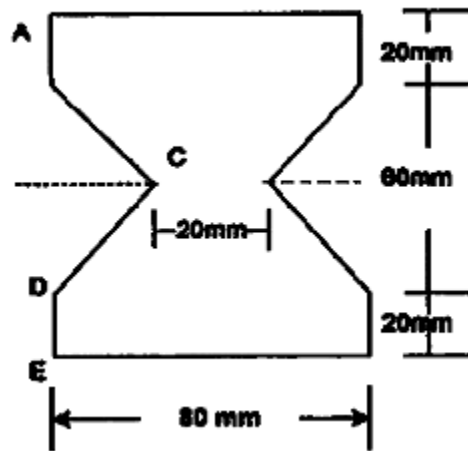

Fig. 7
6. (a) A steel section shown in Fig. 7 is subjected to a shear force of 20 kN. Determine shear stresses at important points and sketch shear stress distribution diagram. [8]